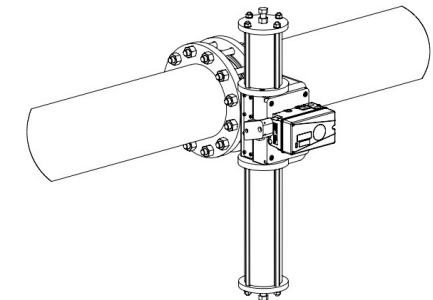

Fig. 3 – Recommended mounting direction of a spring return actuator, spring cylinder facing downwards.
The actuator may be installed in any position. The only position we do not recommend is to install the valve with the valve stem and actuator facing downwards. In this position, the valve stem seal arrangement can be damaged by dirt in the pipeline and compromise the stem tightness over time. Any potential leakage, i.e. from the flange packings, may also damage the actuator. See fig 3.
Spring return actuators, is recommended to be mounted with the spring return unit (longer cylinder), facing downwards. This will prevent any condensing water to be collecting inside the cylinder and instead be released through the filter mounted in the cylinder end. See fig 3.
- 1. Release the nuts (53) and remove them together with the washers (52). The cylinder covers (1), cylinders (3) and O-rings (49) can now be removed.
- 2. Remove the screws (60) from the top of the actuator. Then remove the cover (4).
- 3. Rotate the threaded pin (10), and then withdraw it straight out of the coupling (15).
- 4. If the actuator has two pistons (19), fit a ring spanner to each piston nut (51), and then turn the spanners anti-clockwise until one of the nuts is released. Remove the nut, washer (50) and piston (19). Then carefully withdraw the piston rod (17) from the actuator.
- 5. The linkage mechanism (Fig. 3) can now be lifted out of the actuator. Further dismantling of the linkage mechanism is not normally necessary.
- 1. Make sure that all parts have been thoroughly cleaned. Wipe clean the cylinders (3), bearing surfaces of the lever (6), and other sliding surfaces.
- 2. If the linkage mechanism (Fig. 3) has been dismantled, re-assemble it. Fit the links (13) to the coupling pins (15). Then fit the circlips (33) and assemble the links with the lever (6) and pins (11). Finally, fit the circlips (39).
- 3. Grease the bearings (8) and O-rings (36). Fit them into the housing (5) and cover (4), and to the lever (6). Fit the linkage mechanism into the housing. Make sure that the lever is fitted with the milled driver grooves facing upwards (towards the cover 4), and that the mounting plate on the coupling (15) faces outwards towards the window (68).
- 4. Rub a thin film of grease onto the surface of the piston rod (17). Carefully push the piston rod past the piston rod seal (43), through the bearing (16), coupling (15) and out through the opposite bearing and seal.